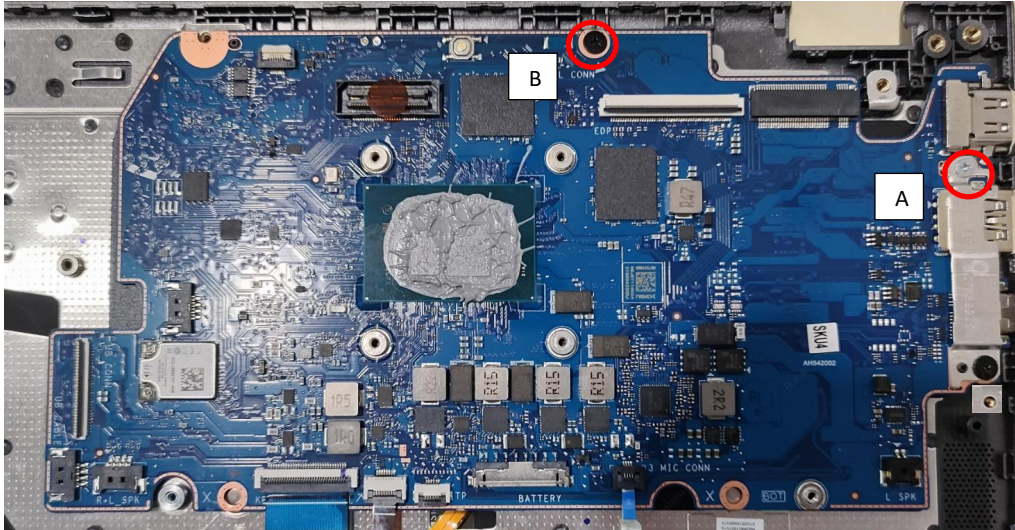

Figure 3-32. Mainboard Removal
1. Remove two (2) screws A and one (1) screws B (Figure 3-32).